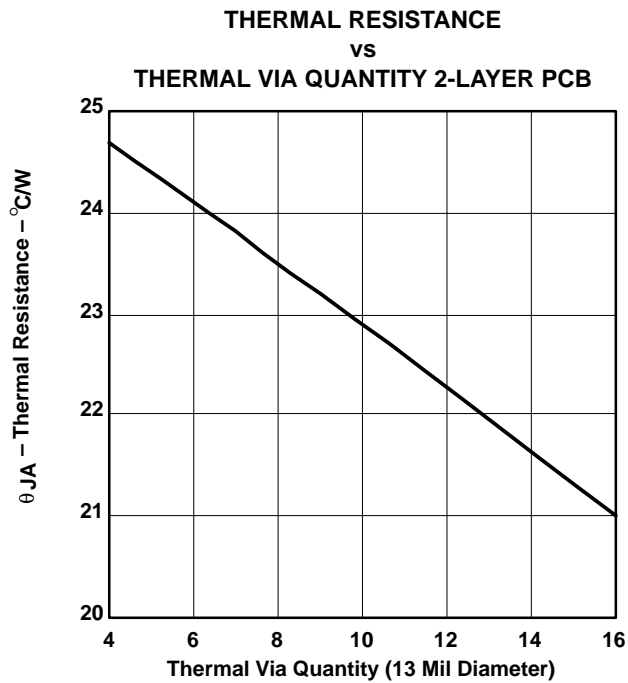

Figure 39. Thermal Resistance
$$\Theta_{JA} = 19^{\circ}\text{C/W} \quad (2\text{-Layer PCB, } 5 \text{ sq. in. copper, see Figure 39}) \quad (8)$$
Figures 39 and 40 show the results of several thermal experiments conducted with the TPA3002D2. Both figures show that the best thermal performance can be achieved with more copper area for heat dissipation and an adequate number of thermal vias.
Figure 39 shows the effect of the number of thermal vias drilled under the PowerPad on the thermal performance of the PCB. The experiment was conducted with a 2-layer PCB and 3 square inches of copper on the bottom layer. For the best thermal performance, at least 16 vias in a 4x4 pattern should be used under the PowerPad. Refer to the TPA3002D2 EVM User's Manual, SLOU115, for an example layout with a 4x4 via pattern. PCB gerber files are available at request.